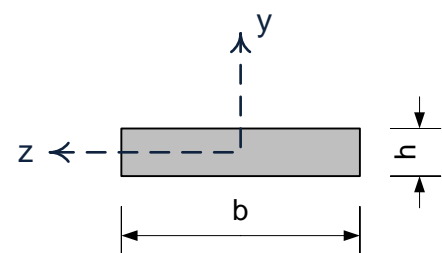

Figure 2: Beam's rectangular cross section
1. Measure the cross-sectional dimension of the beam and calculate its moment of inertia with respect to z (see Fig. 2). Note that $I_z = bh^3/12$.